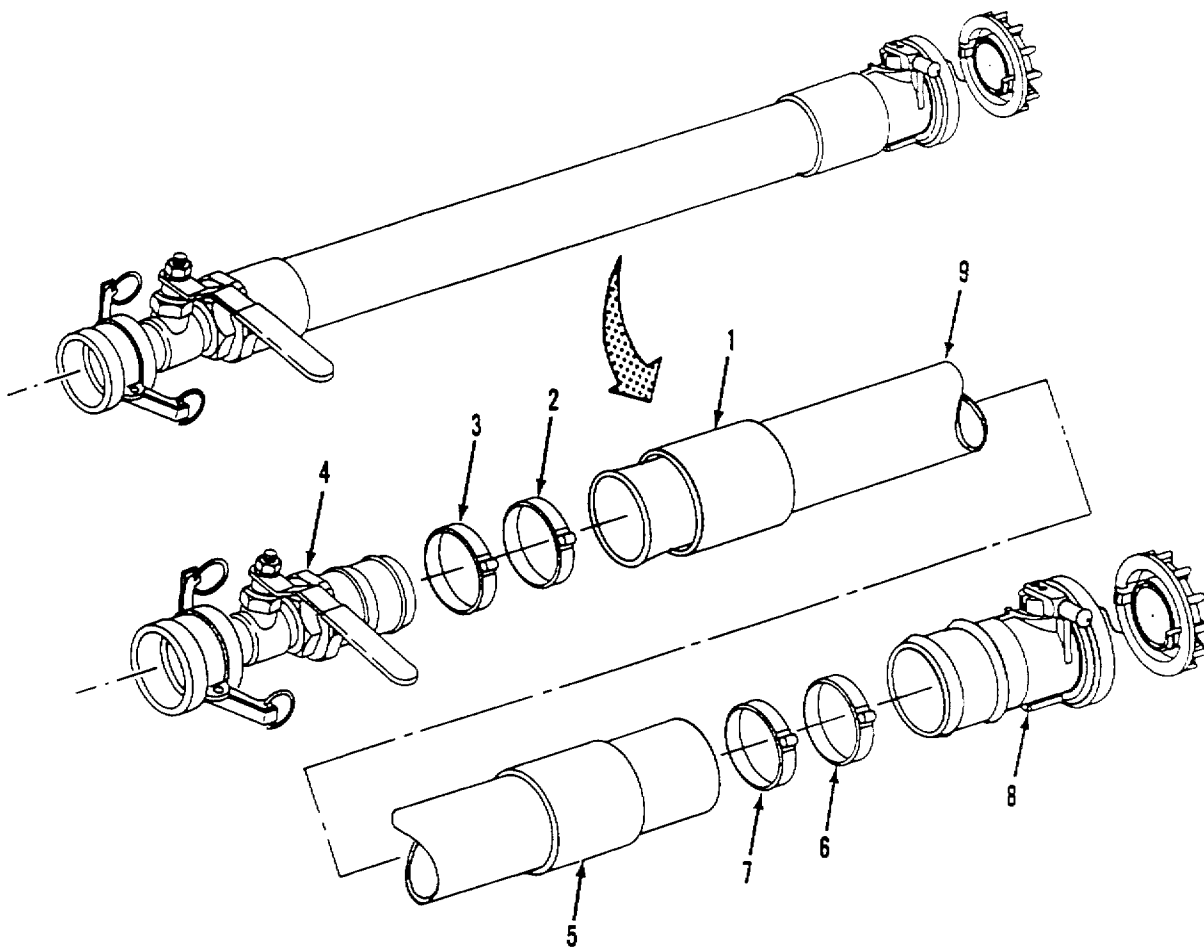
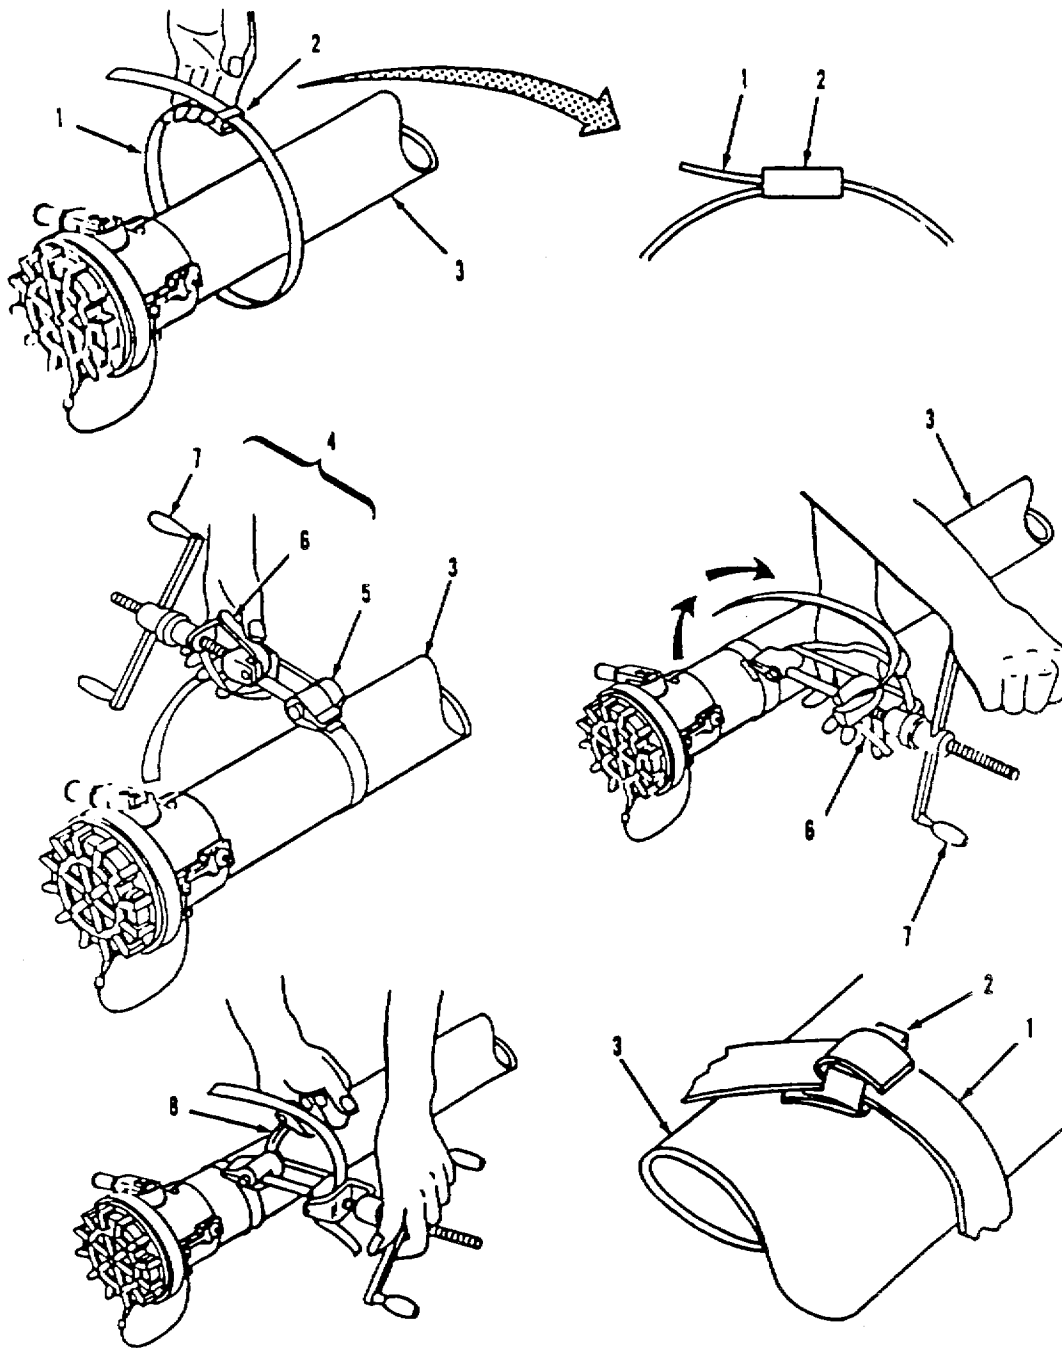

Figure 4-17. 3-inch Fuel Hose Assembly.
Figure 4-18. 3-Inch Fuel Hose Clamp Installation.
**4-21. 3-INCH FUEL HOSE ASSEMBLY HOSE REPAIR -CONT.**c. Inspection. Refer to figure 4-17.
- (1) Inspect ball valve assembly (4) for cracks, corrosion and damaged quick disconnect coupling.
- (2) Inspect valved dry break coupling assembly (8) for cracks, corrosion and damaged coupling body.
- (3) Inspect hose (9) for cuts, tears, punctures, bulges and delamination.
- (4) Inspect ends of hose (9) for damage or missing ground wires. Perform continuity test of ground wire from one end of hose to the other. Continuity must exist.
- (5) Inspect ground wires at both ends of hose (9). At least 1/2 inch of wire must be exposed. If required, trim back hose material to obtain correct wire length.
- (1) Replace damaged components and all mandatory replacement parts.
- (2) Repair ball valve assembly (para 4-22).
- (3) Repair valved dry break coupling assembly (para 4-18).
e. Assembly. Refer to figure 4-17.
- (1) Slide sleeve (5) onto hose (9) and position it about 12 inches back from end of hose.
- (2) Fold ends of grounding wires into hose (9).
- (3) Push valved dry break coupling assembly (8) into end of hose (9).
- (4) Slide sleeve (1) onto hose (9) and position it about 12 inches back from end of hose.
- (5) Push ball valve assembly (4) into end of hose (9).
- (6) Perform continuity test between ball valve assembly (4) and valved dry break coupling (8) to ensure ground wires are firmly seated. Continuity must exist.
- (7) Wrap end of clamp (1, figure 4-18) around hose (3) and through seal (2). Position clamp about 1-inch from end of hose.
- (8) Wrap another loop of clamp (1) around hose (3) and through seal (2).
- (9) Position tag end of clamp (1) in slots of clamping tool (4). Tool nose (5) should fit snug against seal (2).
- (10) Apply pressure to gripper lever (6) and turn handle (7) until clamp (1) is snug. Tool will lock in place when correct tension is applied. Reposition tool as required.
- (11) Turn handle (7) to the right (clockwise) to tighten strapping (1). Continue turning handle until strapping stops moving through seal (2).
- (12) While reversing handle (7) 3/4 turn, roll tool (4) to opposite side of seal (2). (This will bend strapping and prevent it from slipping through seal when tool is removed.)
- (13) Pull cutting handle (8) on tool to cut strapping (1).
- (14) Remove tool (4) while holding strapping stub down on seal (2) with thumb.
- (15) Clinch end of clamp (1) by hammering down tag end clamp over seal (2).
- (16) Repeat steps (7) through (15) for three remaining clamps (2,3, and 7, figure 4-17). Clamps should be 1 inch from end of hose and 2 inches apart.
- (17) Slide sleeve (5) over clamps (6 and 7).
- (18) Slide sleeve (1) over clamps (2 and 3).
- (19) Install hose assembly in fuel system (para 3-4b).
- (20) Start up fuel system (para 2-12g) and test repaired hose for leaks.